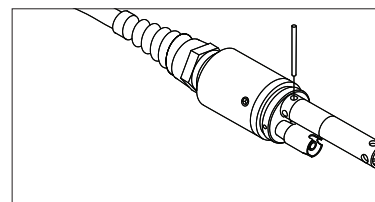

Figure 4. Installation tool used to tighten stainless steel retaining nut of 5560 conductivity/temperature sensor.
6. Once completely installed, the nut will seat flat against the bulkhead. At this point, use the tool that was included with the sensor to turn the nut an additional $\frac{1}{4}$ to $\frac{1}{2}$ turn so it cannot come loose (figure 4). DO NOT over tighten.